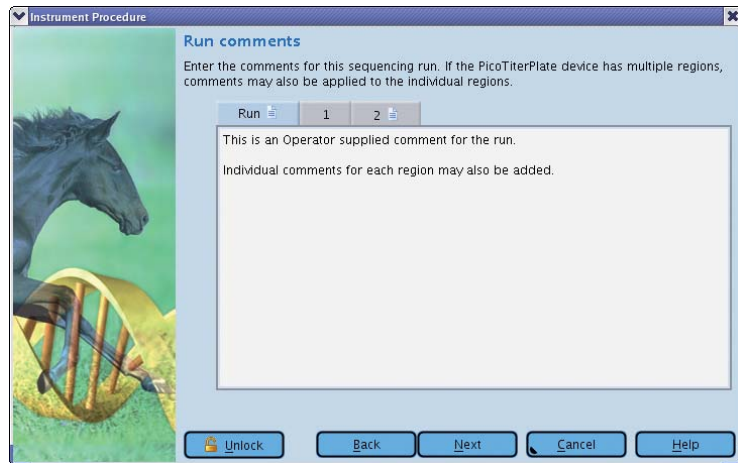

Figure 27: The Run Wizard's ninth window: Run comments
- ▶ This opens the Run Wizard's ninth window: Run comments (Figure 27).
- 10 Click the Start button in the Run Wizard's Insert new PicoTiterPlate device window (Figure 27) to start the sequencing Run.